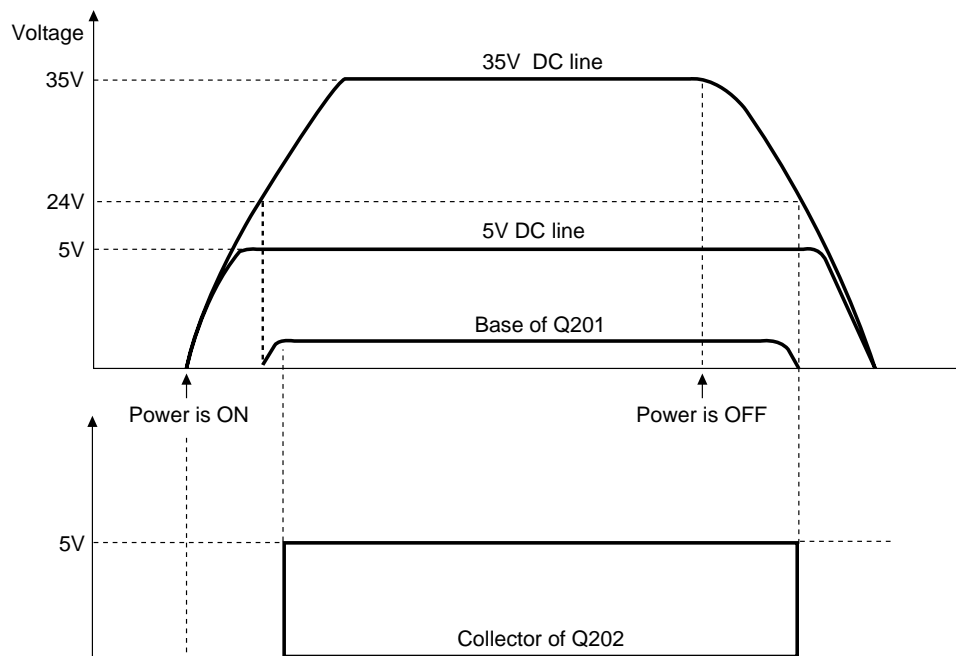

Fig. 1-2
- Fig. 1-2 shows the waveforms in each circuit when power is ON and OFF.